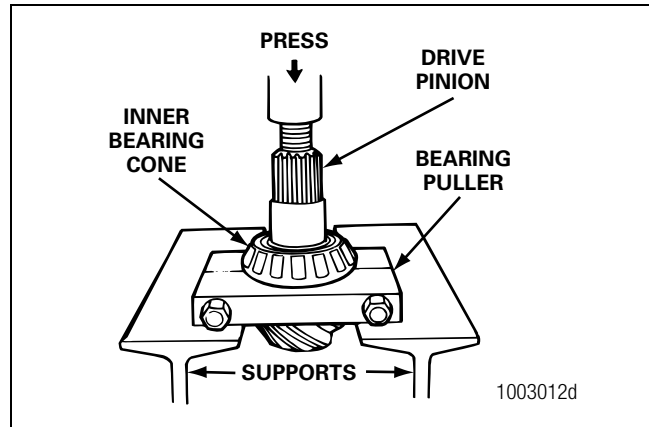

Figure 3.25
- **If you need to replace the pinion bearings:** Use a press or bearing puller to remove the inner bearing cone from the drive pinion. The puller must fit under the inner race of the cone to remove the cone correctly without damage. Figure 3.25.